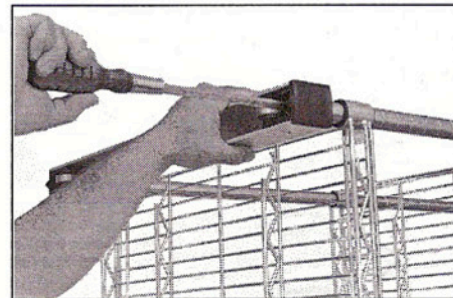
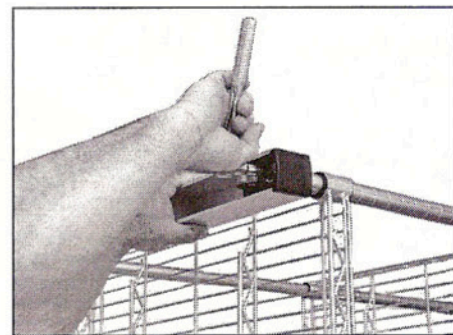

figure 1
figure 2
Align skates (A) top holes with bottom of post. Use a 3/8" flat washer (B) with lock washer (C) and a 3/8" -16 NC x 2" long bolt (D) to screw through skate bottom into post plug. Use a flat head screw driver to start assembly as shown in figure 1. Repeat on opposite side. Tighten bolts with a ratchet, small extension and 3/8" socket as shown in figure 2.